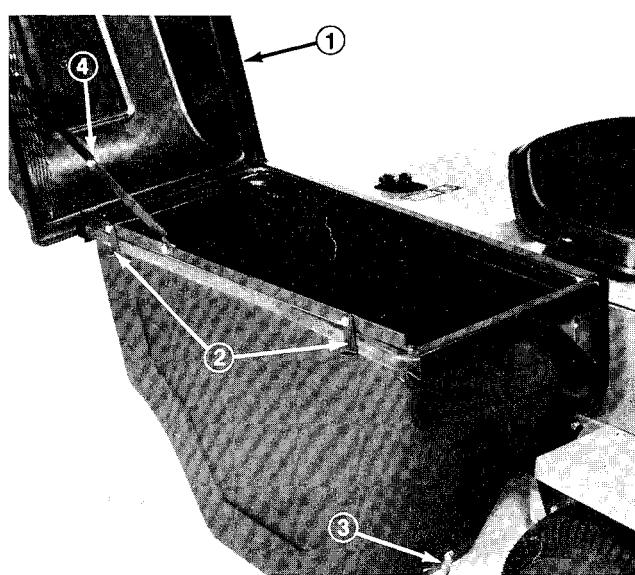

Figure 17
**Note:** When lowering hopper top, make sure bag link pivots upward and top fits over chute (Fig. 17).